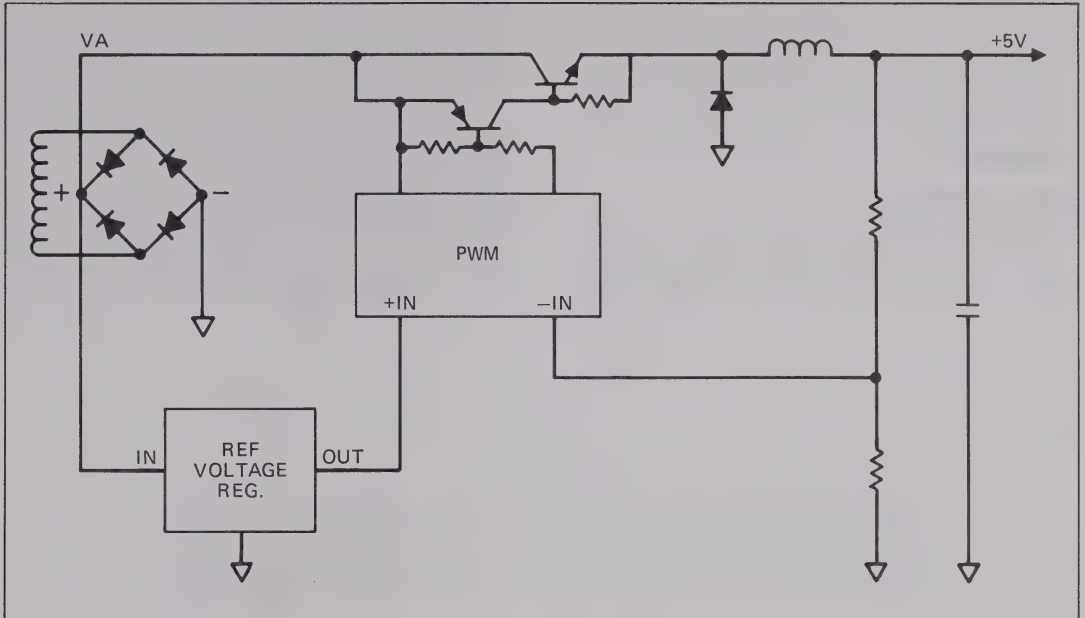

Figure 3-7. Positive 5V dc Simplified Schematic
3-32. Refer to Figure 3-7, the Positive 5V dc Simplified Schematic. Input voltage, VA, supplied through either the transformer and bridge rectifier, or through the external dc terminal block, is controlled through a transistor switch circuit which, in turn, is controlled by a pulse width modulator (PWM). When the PWM turns the transistor switch on, the input voltage (VA) is supplied to an inductor. When the transistor switch is shut off, the energy developed in the inductor is supplied